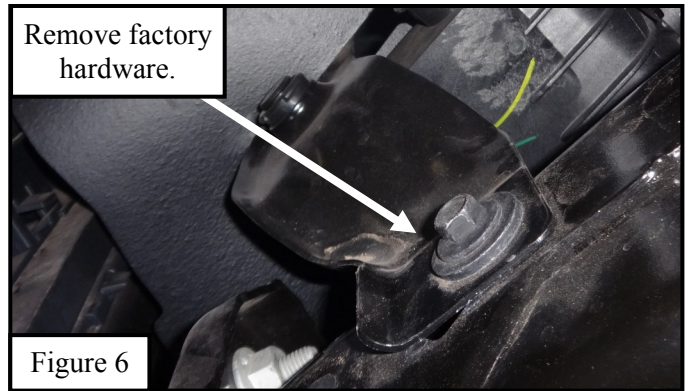

Figure 6
- Remove factory hardware. See **Figure 6**.